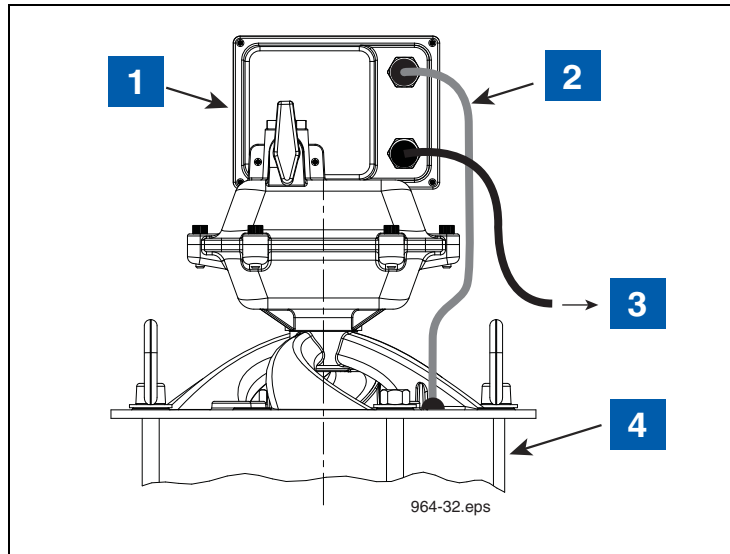

Figure 17. Attaching transmitter cable to CCVP vapor valve
9. Attach the connector end of the CCVP cable to the Carbon Canister's Vapor Valve connector (see Figure 17).
**LEGEND FOR NUMBERED BOXES IN Figure 17**